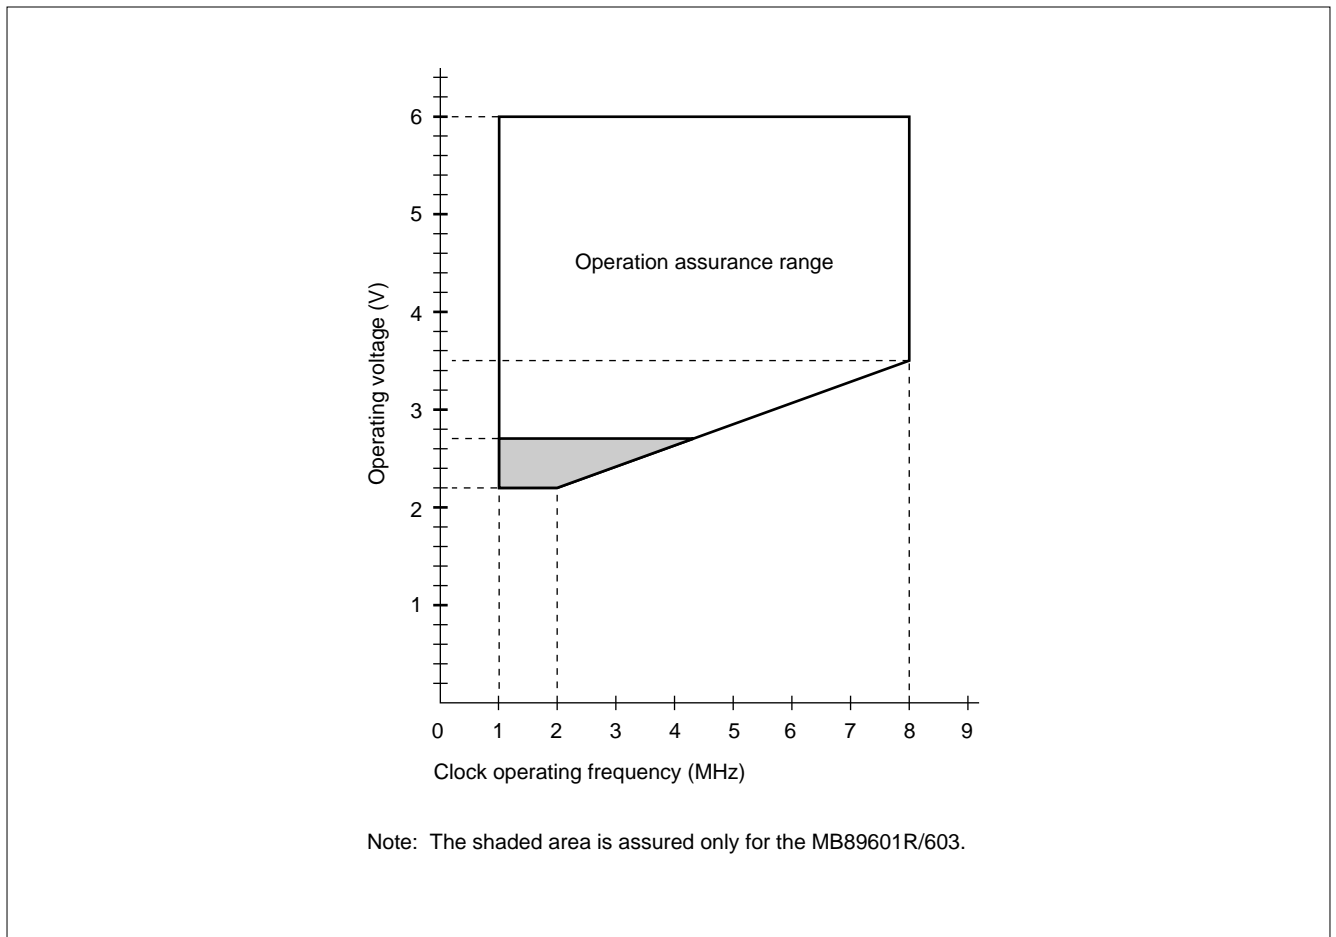

Figure 1 Operating Voltage vs. Clock Operating Frequency
* : These values vary with the operating frequency. See Figure 1.